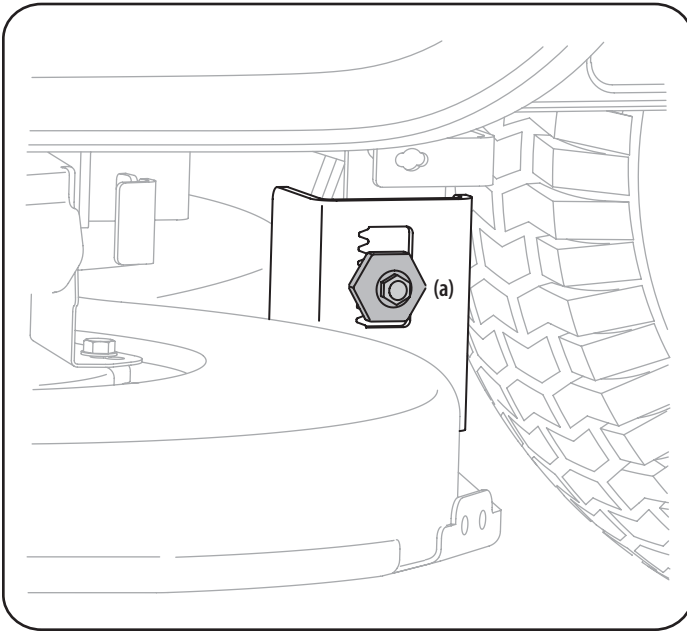

Figure 10
3. Loosen, but do NOT remove, the hex cap screw (a) on the left deck hanger bracket. See Figure 10.